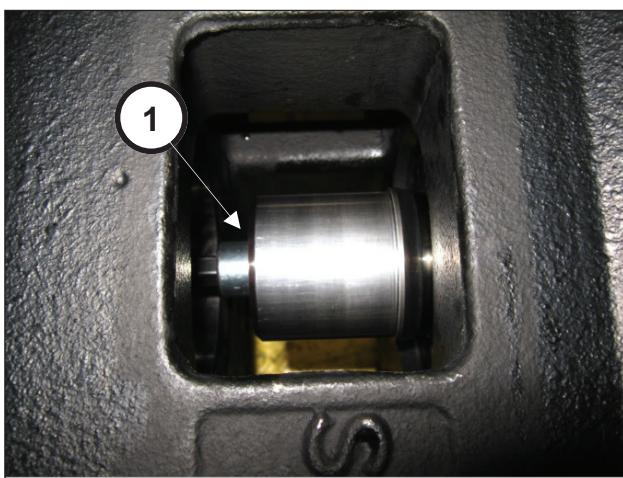

Fig. 36
Operate the pinion until the tool tooth enters completely into the oil seal (pos. ①, Fig. 36). Continue rotating the pinion until the oil seal is completely removed (pos. ①, Fig. 37).